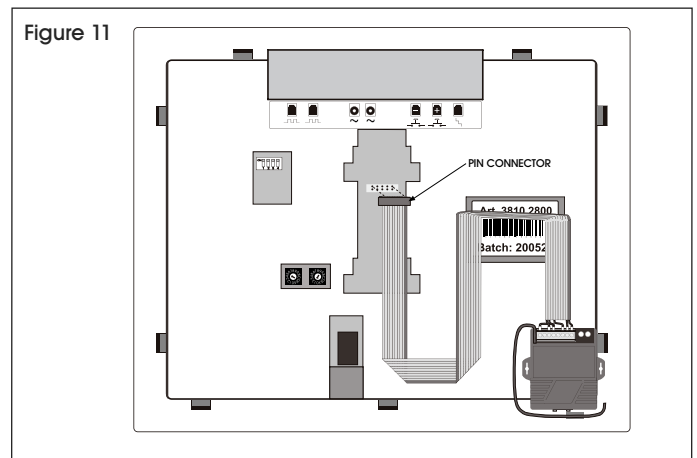

Figure 11
1. Place the pin connector of the wireless receiver on the pins located on the back of display. (See Figure 11)